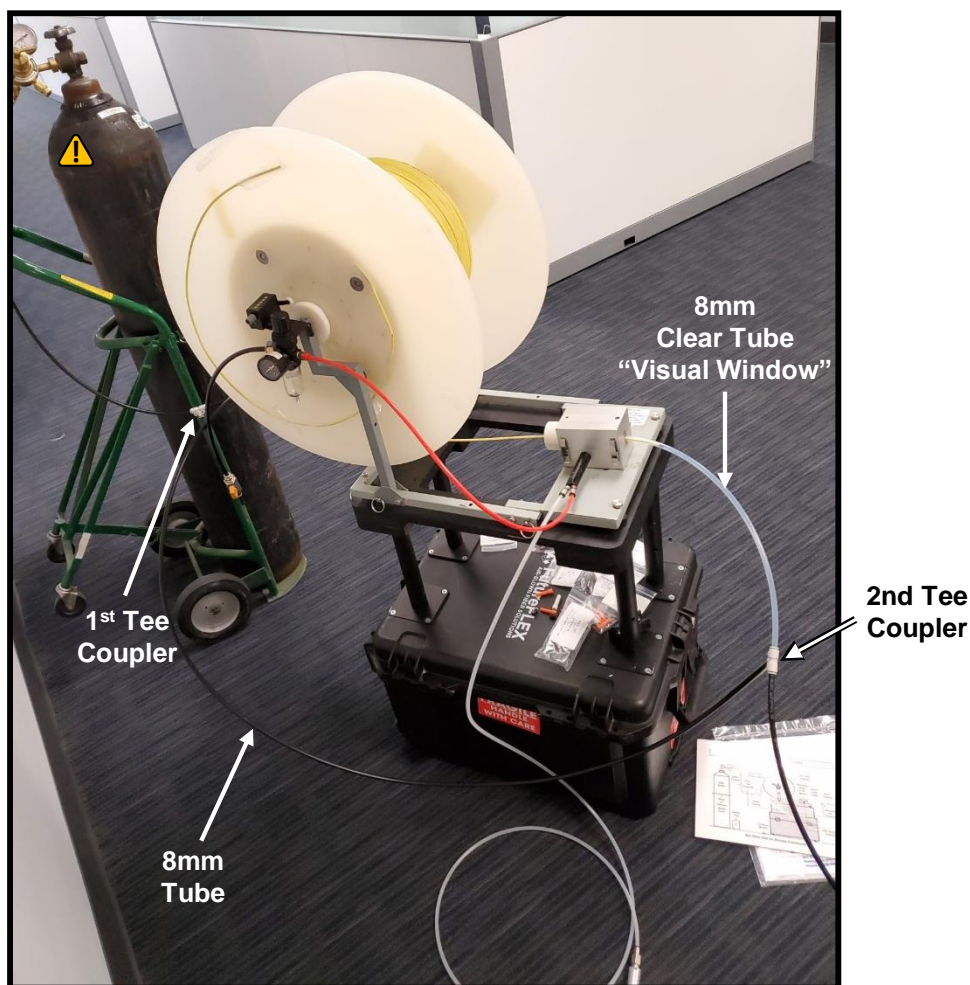

Figure 17
8.8 Push-fit “Installer Provided” length of 8mm tubing between the branch leg of the First Tee Coupler and branch leg of the “Second” Tee Coupler. (3’ - 4’ suggested and should place the Second Tee Coupler about 1-foot in front of the Blowing Head) **See Fig. 17.**
8.9 Push-fit 8mm Clear-Tube into one side of the Second Tee Coupler. **See Fig. 17.**